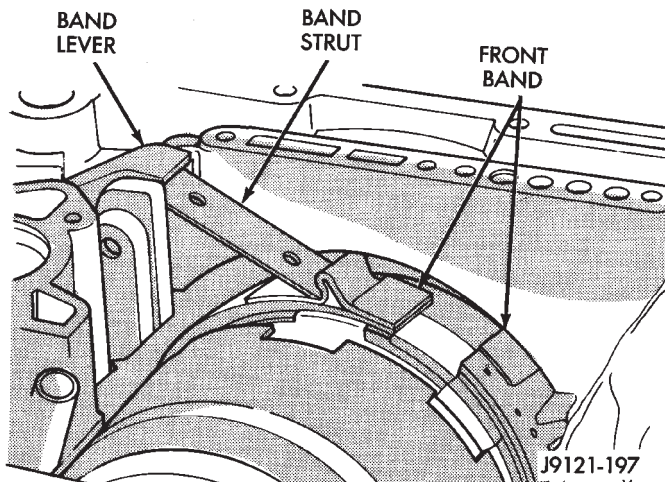

Fig. 161 Front Band Linkage Installation
(29) Install front band lever, strut and adjusting screw (Fig. 161).